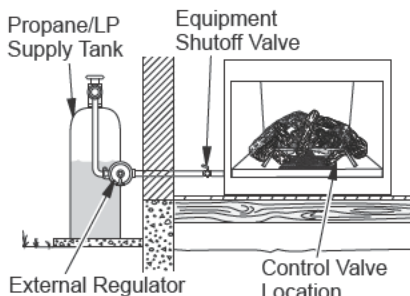

Figure 19 - Checking Gas Joints for Propane/LP Gas
3. Check all joints from gas meter to equipment shutoff valve for natural gas or propane/LP supply to equipment shutoff valve for propane/LP (see Figure 19 or 20). Apply a noncorrosive leak detection fluid to all joints. Bubbles forming show a leak.
4. Check all joints from equipment shutoff valve to control valve (see Figure 19 or 20). Apply a noncorrosive leak detection fluid to all joints. Bubbles forming show a leak.